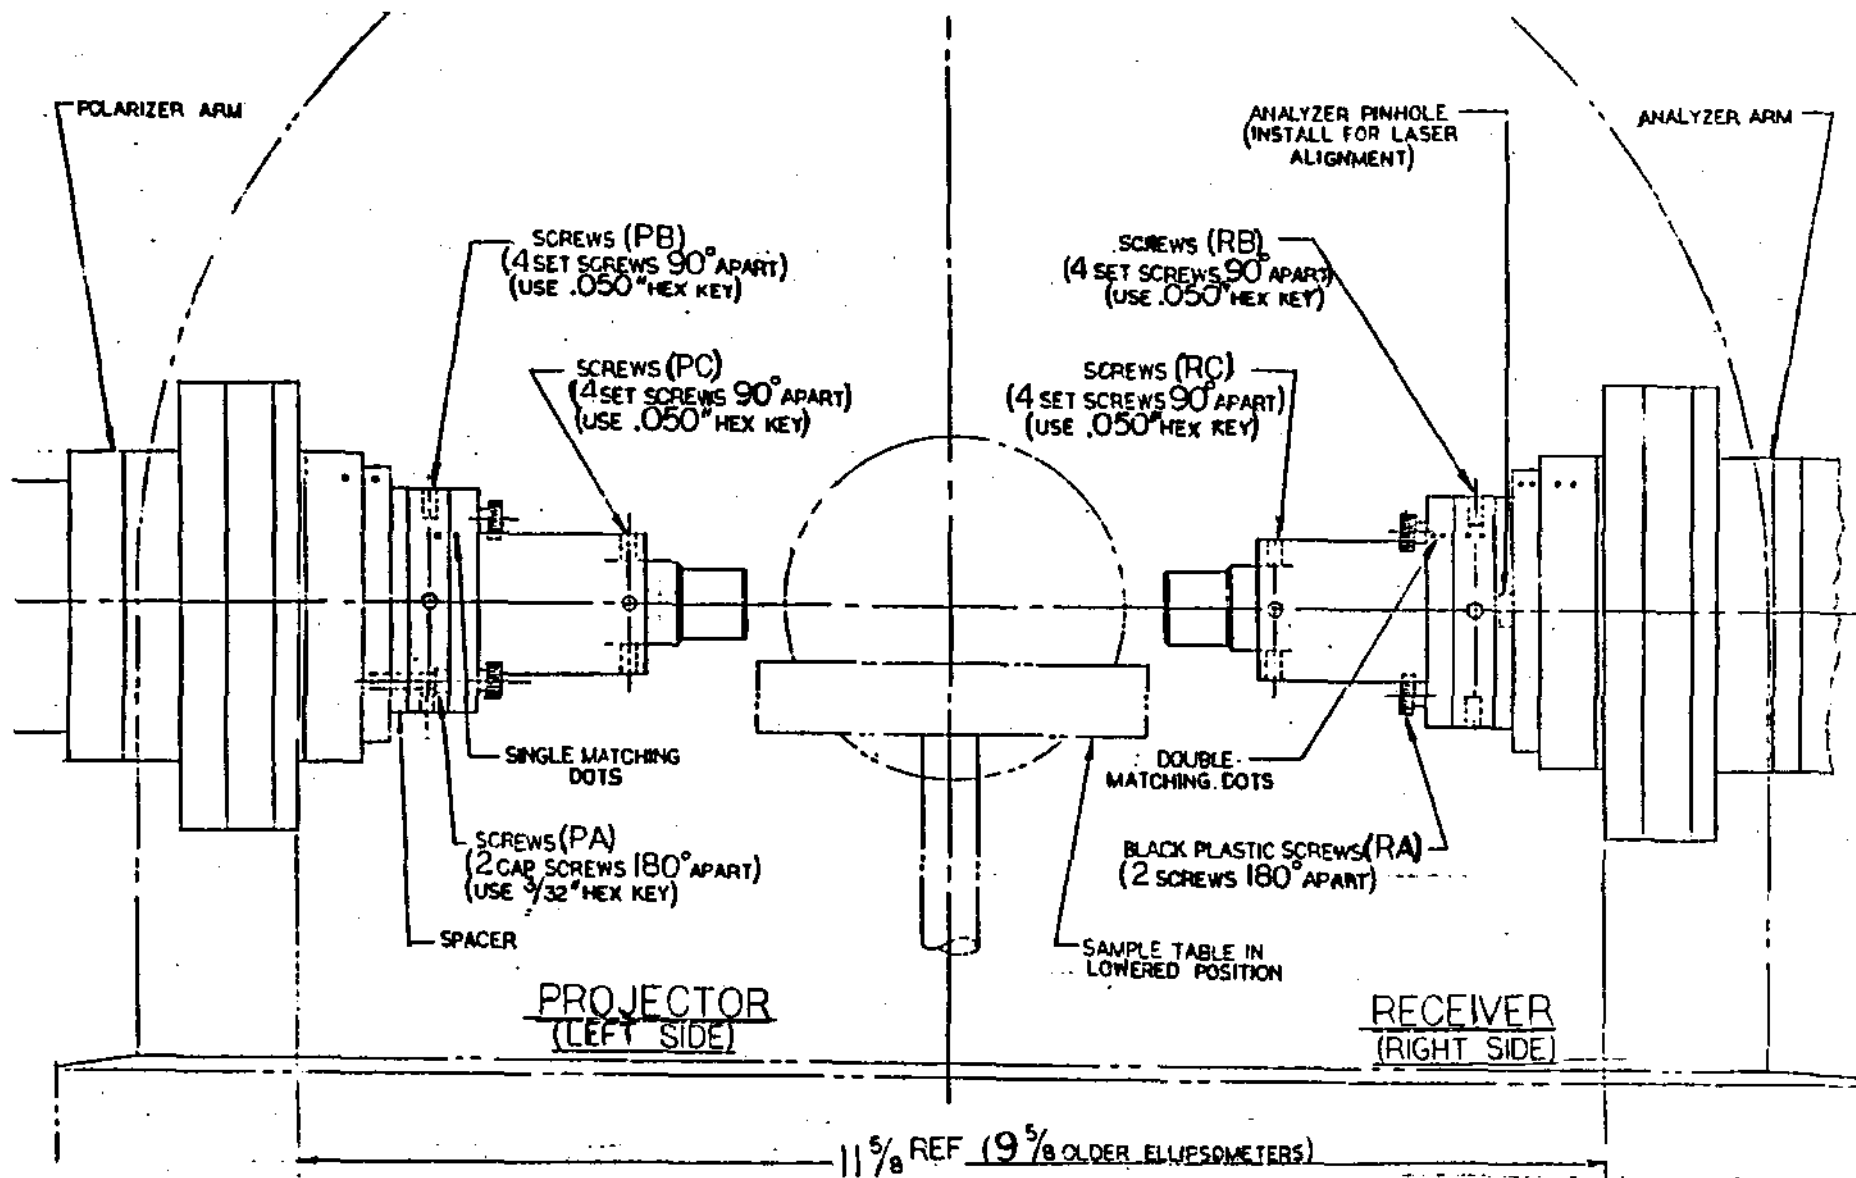

Figure 1. Microspot Optics Components Removal/Installation
- 7.3 With the spacer in place, if so equipped, install the receiver microspot, aligning the double matching dots. (See figure 1.)
4.1b If necessary, readjust by loosening/tightening the top and/or bottom microspot adjustment screws (PB) as in figure 1 under **Microspot Optics-Removal and Installation** procedures to achieve your refractive index.
3. Fine alignment is accomplished by moving the laser spot to the right or left, using set screws LR and LL, located where shown in figure 1, or moving the laser spot backward or forward, using set screws LB and LF, located where shown in figure 1. Each of these set screws are adjusted using a 3/32-inch hex key.
Do not loosen the screw located at position shown in figure 1.